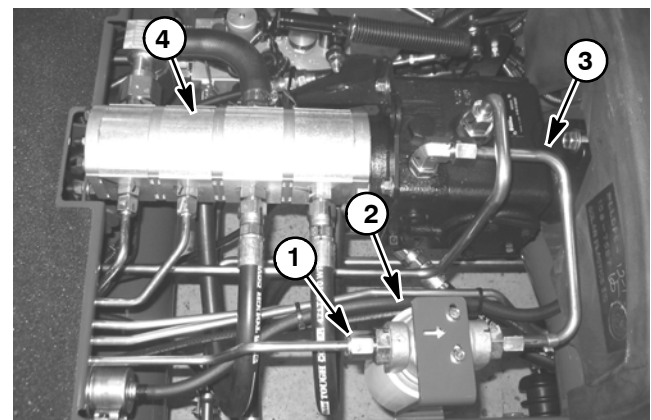

Figure 32
5. Thoroughly clean the ends of the hydraulic tubes connected to the oil filter and traction pump inlets (Fig. 32). Disconnect hydraulic tubes from oil filter inlet and traction pump inlet. Remove two (2) flange head screws that secure oil filter adapter to frame. Remove oil filter assembly and hydraulic tube from machine.